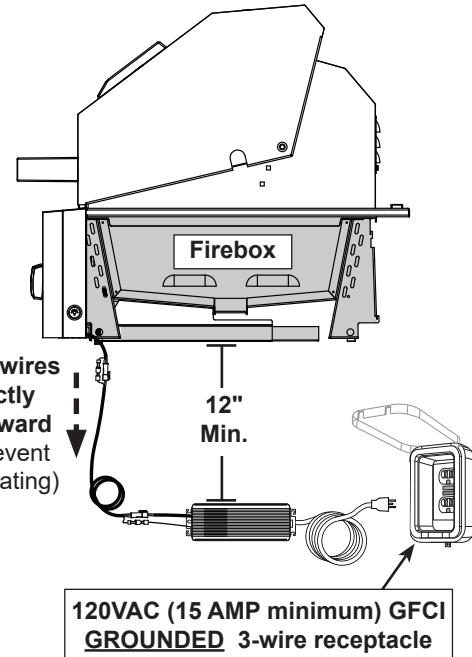

Fig. 30-1 Electrical installation
- located at least 12" below the bottom of the unit (see Fig. 30-1)
3. Connect the power cord to a **120VAC (15AMP minimum) GFCI GROUNDED three-wire receptacle** (see Fig. 30-1). The GFCI receptacle must be a WEATHER-PROOF IN-USE COVERED RECEPTACLE.